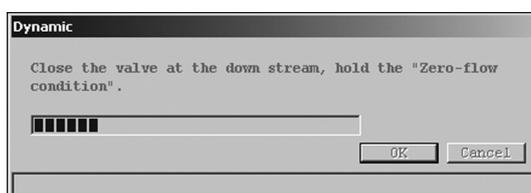

Fig.114
- ④ During the check, a progress bar will appear as shown in Fig. 114, allowing for the confirmation of the state of the check.